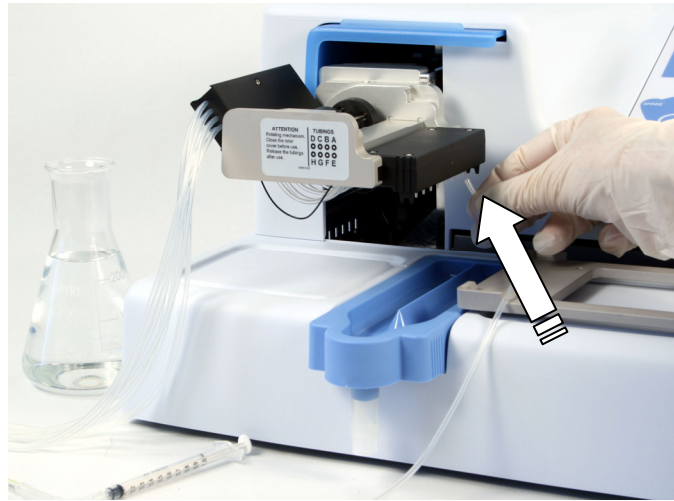

Figure 6–51. Placing the tube onto the tip of channel A
2. Install the tube of the calibration device into the tip of the channel to be recalibrated (Figure 6–51), for example, A.